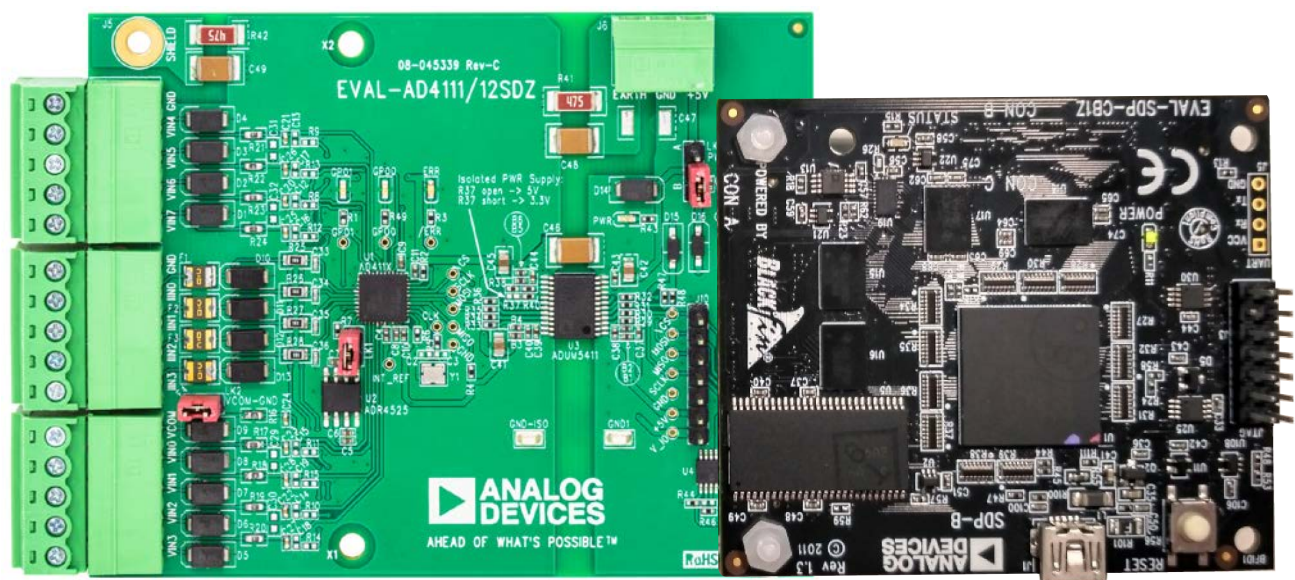

Figure 3. Hardware Configuration
2. Connect the **SDP-B** board to the EVAL-AD4111SDZ board, as shown in Figure 3.